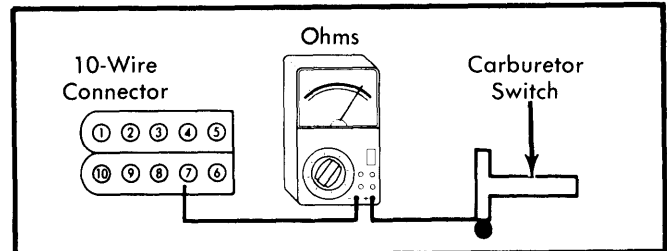

Fig. 6 Ohmmeter Hookup for Checking Carburetor Switch Wiring Harness
9) If voltage at terminal 2 was correct, turn ignition switch "OFF". Using an ohmmeter, check continuity between terminal 7 of 10-wire connector and carburetor switch terminal. See Fig. 6. Continuity should exist. If not, check wire between connections for opens, shorts or poor connections. If continuity is present, use an ohmmeter with leads attached to terminal 10